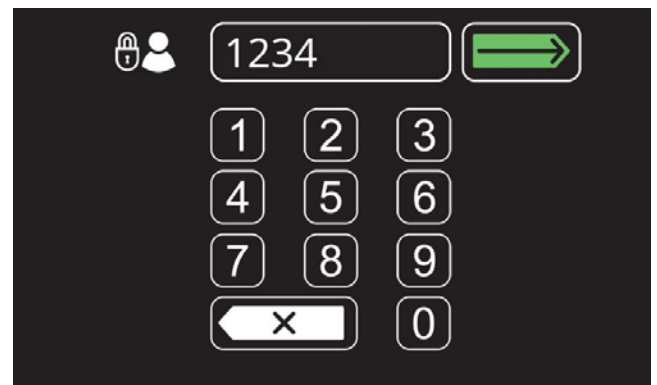

FIG. 174
3. First time use - Enter the factory-assigned supervisor mode login code "1234" then press the green enter button (Figure 174).